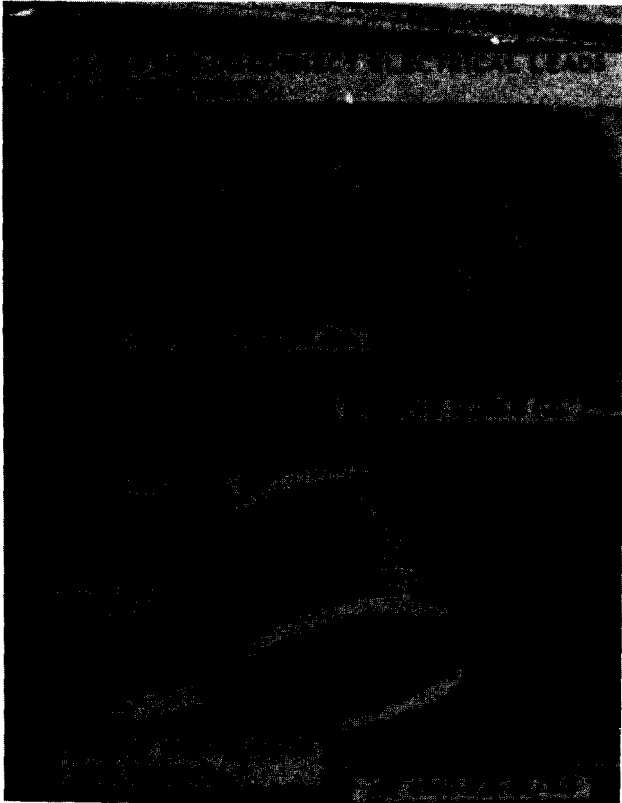

Figure 4-5 Front ventilator fan assembly, removal and installation.
(1) Refer to figure 4-5 and remove the 2 screws that secure the guard. Remove the guard.
(2) Remove the 4 screws that secure the bracket and remove the bracket.
(3) Tag and disconnect the electrical leads; remove the 2 nuts that secure the front ventilator fan assembly, and remove front ventilator fan assembly.
(1) Refer to figure 4-5 and install the front ventilator fan and secure with 2 nuts. Connect electrical leads.
(2) Install the bracket and secure with 4 screws.
(3) Install the guard and secure with 2 screws,